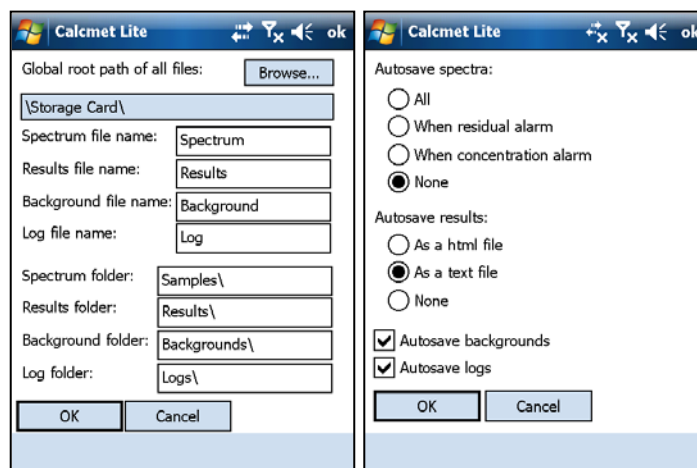

Figure 19. Save spectrum files.
- Store the sample spectra (Figure 19). Sample spectra can then be downloaded onto the computer and be post analyzed using Calcmeter software. Go to Settings → Autosaving → Autosave Spectra: All. Go to Settings → Save paths and click “Browse...” to specify the root folder for saving files, the various file sub folders and the name given to the saved spectrum files. Use the “built in” keyboard to enter the spectrum name.